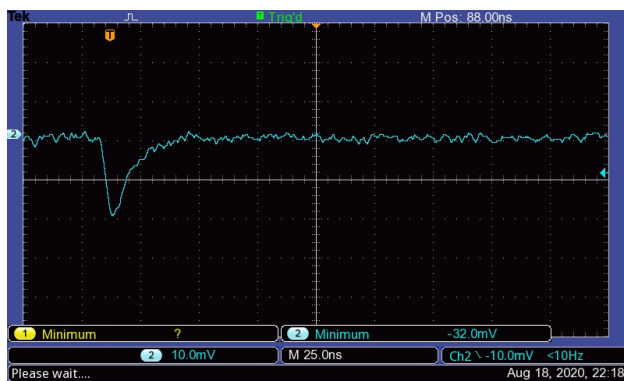

Figure 9: Screenshot of a signal seen with an oscilloscope. The yellow horizontal line shows the set threshold for the count.
- If the pulses coming into the digitizer card are negative, such as the one shown in Figure 9, we will enable **Flip Polarity**.